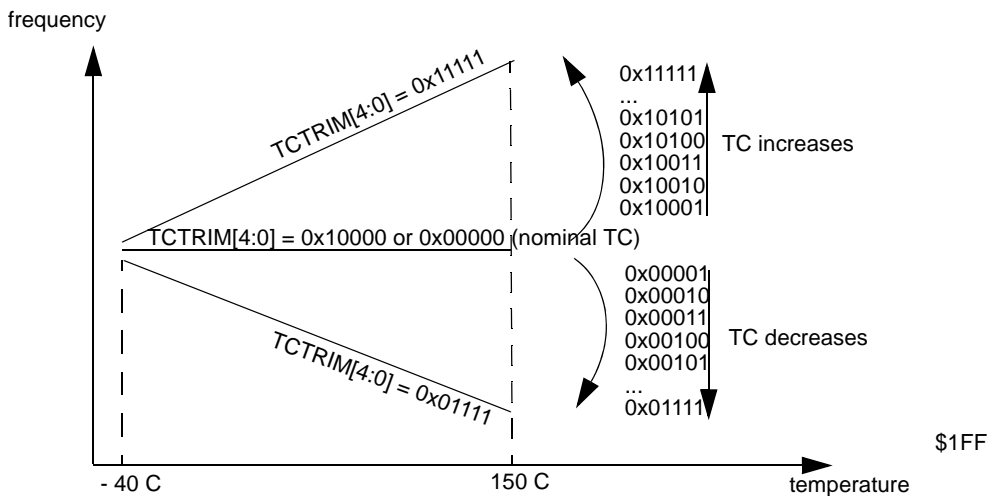

Figure 93. Influence of TCTRIM[4:0] on the Temperature Coefficient
15-11 TCTRIM	IRC1M temperature coefficient Trim Bits Trim bits for the Temperature Coefficient (TC) of the IRC1M frequency. <a href="#">Figure 93</a> shows the influence of the bits TCTRIM[4:0] on the relationship between frequency and temperature. <a href="#">Figure 93</a> shows an approximate TC variation, relative to the nominal TC of the IRC1M (i.e. for TCTRIM[4:0]=0x00000 or 0x10000).